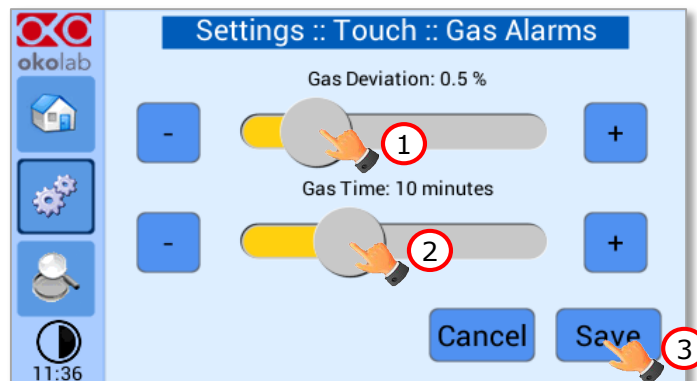

Figure 58. How to set the Deviation and Time Alarm.
2. Insert the Gas Deviation by scrolling the bar (1 in Figure 58) or pressing the +/- icons.
3. Insert the Gas Time by scrolling the bar (2 in Figure 58) or pressing the +/- icons.
4. Press Save (3 in Figure 58) to confirm.
Figure 58. In this example the following settings are displayed (valid only after the system has reached its stationary state): if the *Gas Deviation* from Setpoint is 0.5% or greater (i.e. if Setpoint gas is 5.0% and the